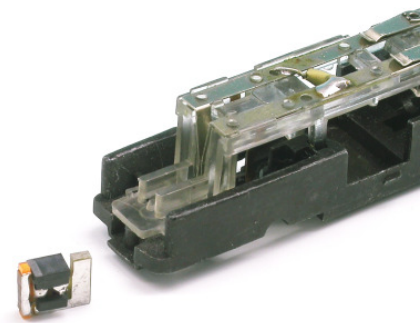
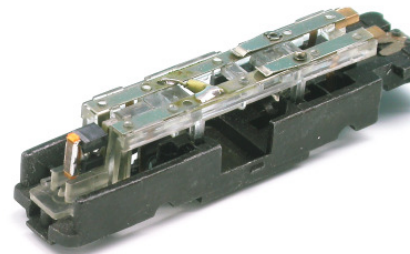

figure 2: Installation of the component
figure 3: Correct position: The component pushed in completely.
8. Now take the electronic component out of its package. The black condenser is pointing upwards, the LEDs into running direction. Now insert the component from above into the socket where the bulb has been before, figure 2. Push the component carefully from above until it sits on the transparent plastic and is held at its back by the two current collectors. Take care that the component sits way in the back in the vertical slot. If this is not the case, take it out and try again. Contrary to the original bulb, when using the new electronic component the lower slot remains vacant. Do not try to force in the component, some parts are very likely to break. In the end, the component should be in a horizontal position and it is important that it has been pushed way into the back, figure 3.